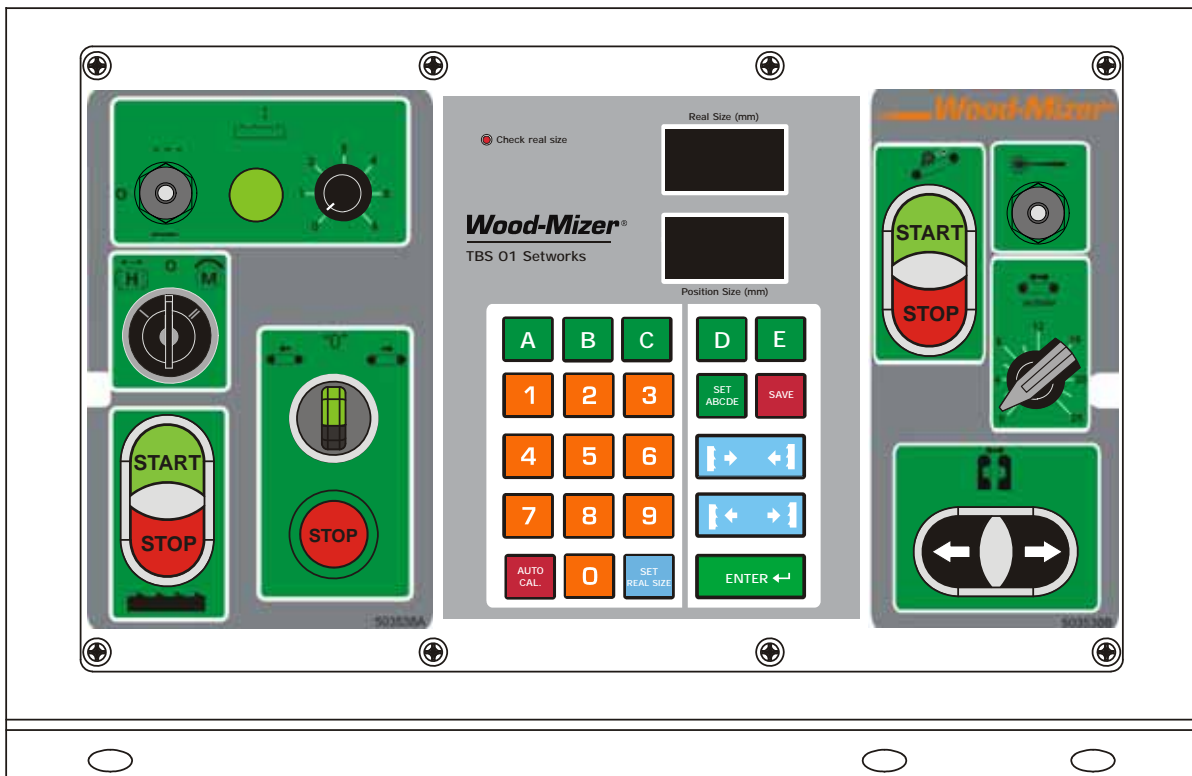

FIG. 2-10
**See Figure 2-10.** Start the blade motors. To do this, turn the key switch to the  position and then push the Blade START button on the control panel (see the figure below). The motors should start and the blades should start spinning.